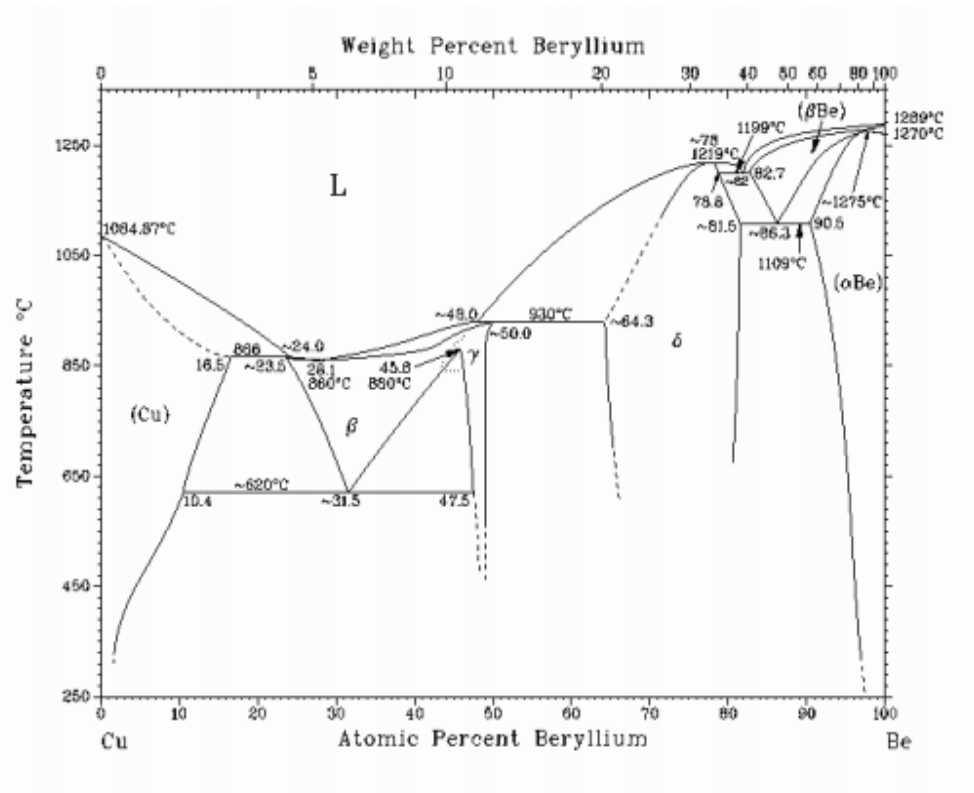

Figure 4: Copper-beryllium phase diagram/Rajah 4: fasa kuprum-berilium
- (6). (a). Phase diagram of copper-beryllium alloys is shown in Figure 4. Copper-rich copper-beryllium alloy are precipitation hardenable. By consulting the phase diagram, do the following: